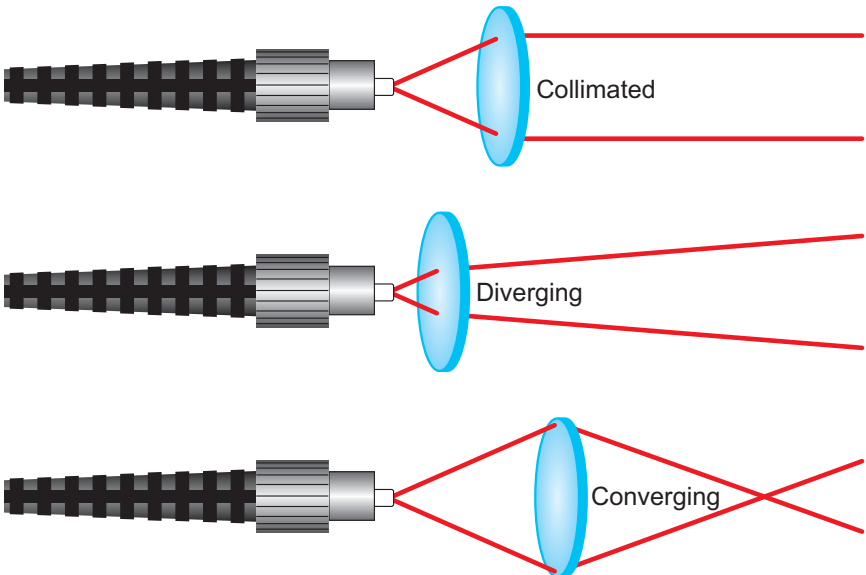

Figure 5 Three Lens Positions: Collimated, Converging, and Diverging Beams
3. Trace the beam away from the FiberPort to check for collimation. (See Figure 5, shown below).